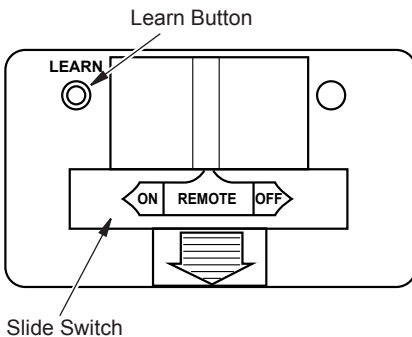

Figure 26 - Receiver
1. Place the slide switch on the receiver in the remote position (see Figure 26).
The factory setting for temperature is °F. To change this setting to °C, press the ON key and the OFF key on the remote control at the same time (see Figure 26, page 22). This will change from °F to °C. Follow this same procedure to change from °C back to °F.